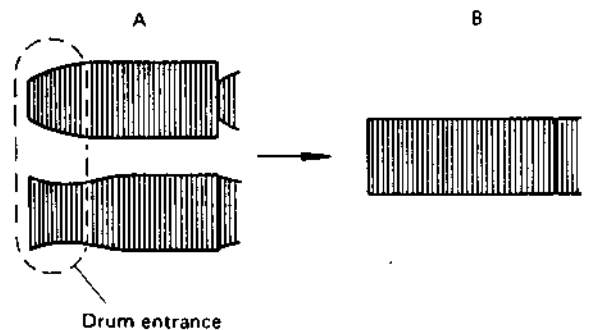

Fig. 2-4-12 Drum entrance adjustment
- 1) Refer to Fig. 2-4-12. Examples of incorrect waveforms are shown by A. Use a screwdriver to adjust the supply guide roller so that the rising portion (drum entrance) of the waveform becomes flat as shown by B.